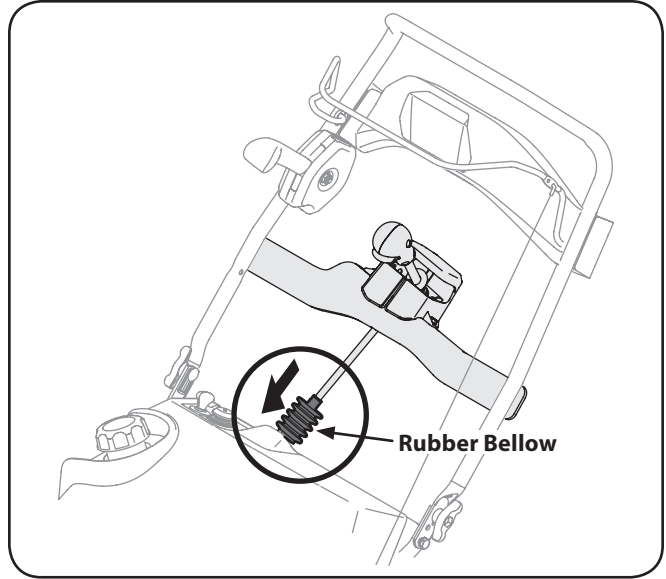

**Figure 3-9**
- Remove the screw and hex lock nut from the universal joint. See Figure 3-9.
- Install the universal joint on the end of the chute rod as shown in Figure 3-9.
- Secure the universal joint with the hex nut and screw previously removed. See Figure 3-9.